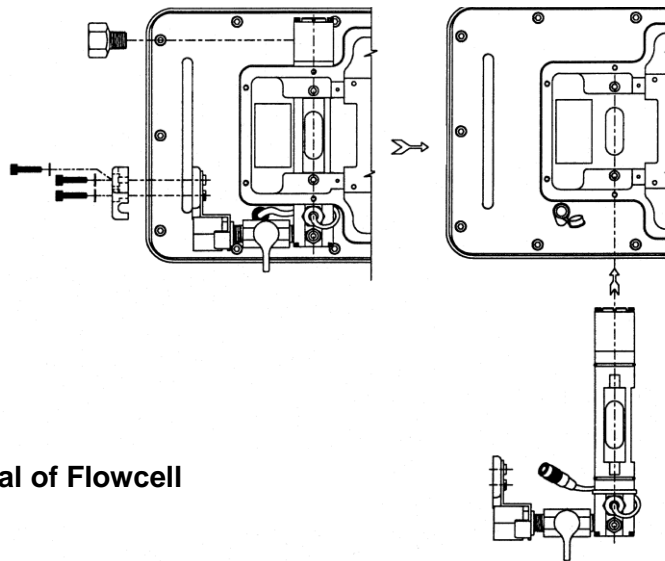

FIGURE 2: Removal of Flowcell
1. Turn off the power and drain the system (if the continuous flow system is being used). If present, remove all connections from the Intake and Exhaust Fittings (see Figure 2).
- ① If you are switching applications (i.e., from rhodamine to chlorophyll, etc.), note that you will have to readjust the Sensitivity Adjustment Knob and switch the lamp. Please refer to your Model 10-AU user's manual.
① **Note on lamps: Note that readings on a given fluorometer are affected by the unique properties of the individual lamp installed. If the lamp has been installed and you want to maintain calibration, you should mark the lamp so that it may be returned to its original position. A dab of nail polish on the lower base of the lamp works well. However, the lamp does not need to be removed to install cuvette adapters.**
- ① With the 10-AU-030 (13 & 25 mm Cuvette Holder Set), if you are simply changing from 25 mm discrete samples to 13 mm discrete samples, or vice versa, then the 13 mm holder slips inside the 25 mm holder. To ensure proper alignment, the metal pin on the top lip of the 13 mm portion fits into the groove on the top lip of the 25 mm body.
**5. Continuous-Flow Cuvette System (One-Piece) Removal (See Figure 2)**